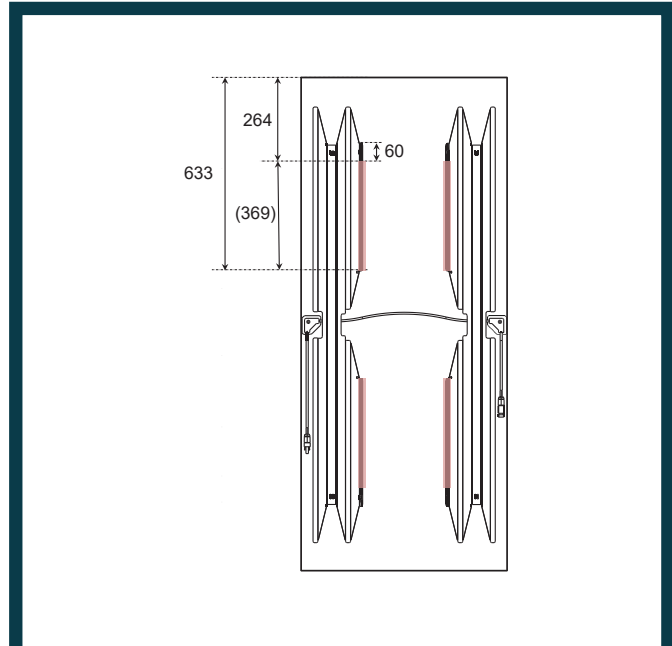

Fig. 1: Module rear side „Hook-In” variant
- AVANCIS requires that the PV modules are mounted using the four mounting areas located on the backrails (marked in red in figures 1, 4 and 6).
- The full length of the SMART clamps must be in contact with the permitted mounting zone of the backrails (marked in red in figures 1, 4 and 6) and need to be fastened with a torque of 20 Nm. The permitted mounting zone comprises the full length of the mounting lip of a backrail with the exclusion of the first 6 cm, measured from the outer end. The permitted mounting zone therefore covers the region between 264 mm and 633 mm (for standard module size) as measured from the outer glass edge (see figure 1).
- The standard mounting of the “Hook-In” variant is shown in figures 1 and 2. Local building code requirements need to be observed. The red areas in figure 1 indicate the permitted positions of the SMART clamps.